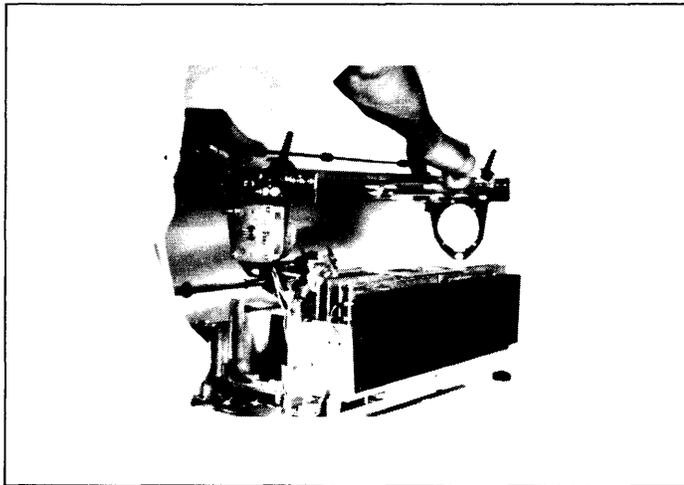

Figure 3-10. Carrier System Removal
- (6) Carefully lift the carrier subassembly, including the paper feed drive motor, free of the printer main frame, as shown in Figure 3-10. Be sure the motor wires are free and not caught in the wire bundle.
- (2) Carefully lower the carrier subassembly into position on the printer main frame. Refer to Figure 3-10.
- (3) Insert the left- and right-hand rear carrier subassembly shoulder support screws removed in Section 3.3.7 removal procedures, Step (5), using the TORX T15 screwdriver. Make sure the screw shoulders pass into the slots in the carrier side frame, and tighten the screws firmly, but DO NOT overtighten and strip the threads from the holes in the main frame casting.
- (4) Insert the left- and right-hand front carrier subassembly height adjustment eccentrics removed in Section 3.3.7 removal procedures, Step (5), using a 1/4" wrench or nutdriver. Make sure the shoulders of the eccentrics pass into the slots in the carrier side frames, and thread the screws in enough to retain the eccentrics snugly in the slots, but do not tighten. The eccentrics should be positioned so their lobes point toward the rear of the machine.
- (5) Use the #99009 T-Handle Spring Hook to connect the loose ends of the four carrier subassembly load springs to the main frame making use of the holes provided. Section 3.3.7 removal procedures, Step (3), detailed the unhooking of these springs for the old subassembly just removed.
- (6) Arrange the four wires from the paper feed motor into the wire bundle running along the edge of the mother board, and connect them to the push-on terminals on the mother board as follows: gray wire to terminal T4; black wire to terminal T5; yellow wire to terminal T6; and the red wire to terminal T7. Secure the wire bundle with plastic cable ties or equivalent.